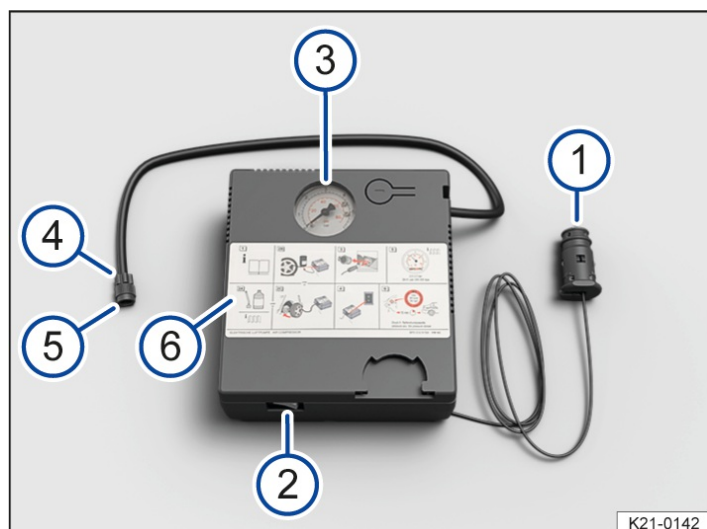

Fig. 2 Illustration: compressor from the breakdown set.
1. Screw the tyre filler hose → Fig. 2 (5) of the air compressor tightly onto the tyre valve.
2. Make sure that the air bleed screw → Fig. 2 (4) is closed.
4. Insert the 12-volt plug → Fig. 2 (1) into one of the vehicle's 12-volt sockets (→ Sockets).
5. Use the ON/OFF switch → Fig. 2 (2) to switch on the air compressor.